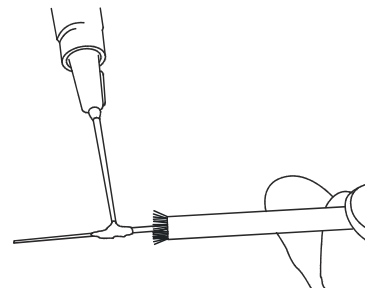

Figure 25. Apply Primer to Buffer
1. **Apply Primer to Fiber Buffer**—Using the syringe with the primer in it, apply primer to 0.25 inch (6 mm) of the buffer. Avoid getting the primer on the fiber. If several connectors are being terminated, it is recommended that all of the buffers be primed before moving on to the next step. (Figure 25).